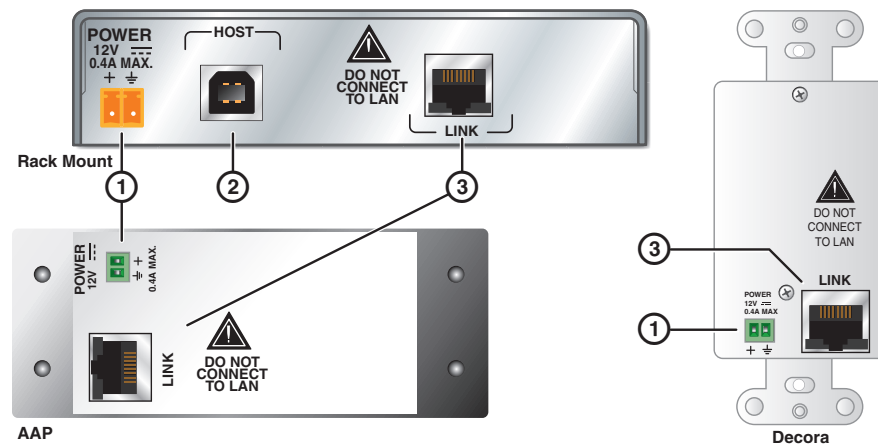

Figure 3. Transmitter (Tx) Rear Panel Connectors
- ④ **Power input connector** — The receiver requires an external supply. Plug the included 12 VDC power supply into this two-pole, 3.5 mm captive screw connector.
- ⑤ **Link (twisted pair) connector** — Connect the TP cable from the transmitter Link connector (figure 3, ③) to this RJ-45 female connector.